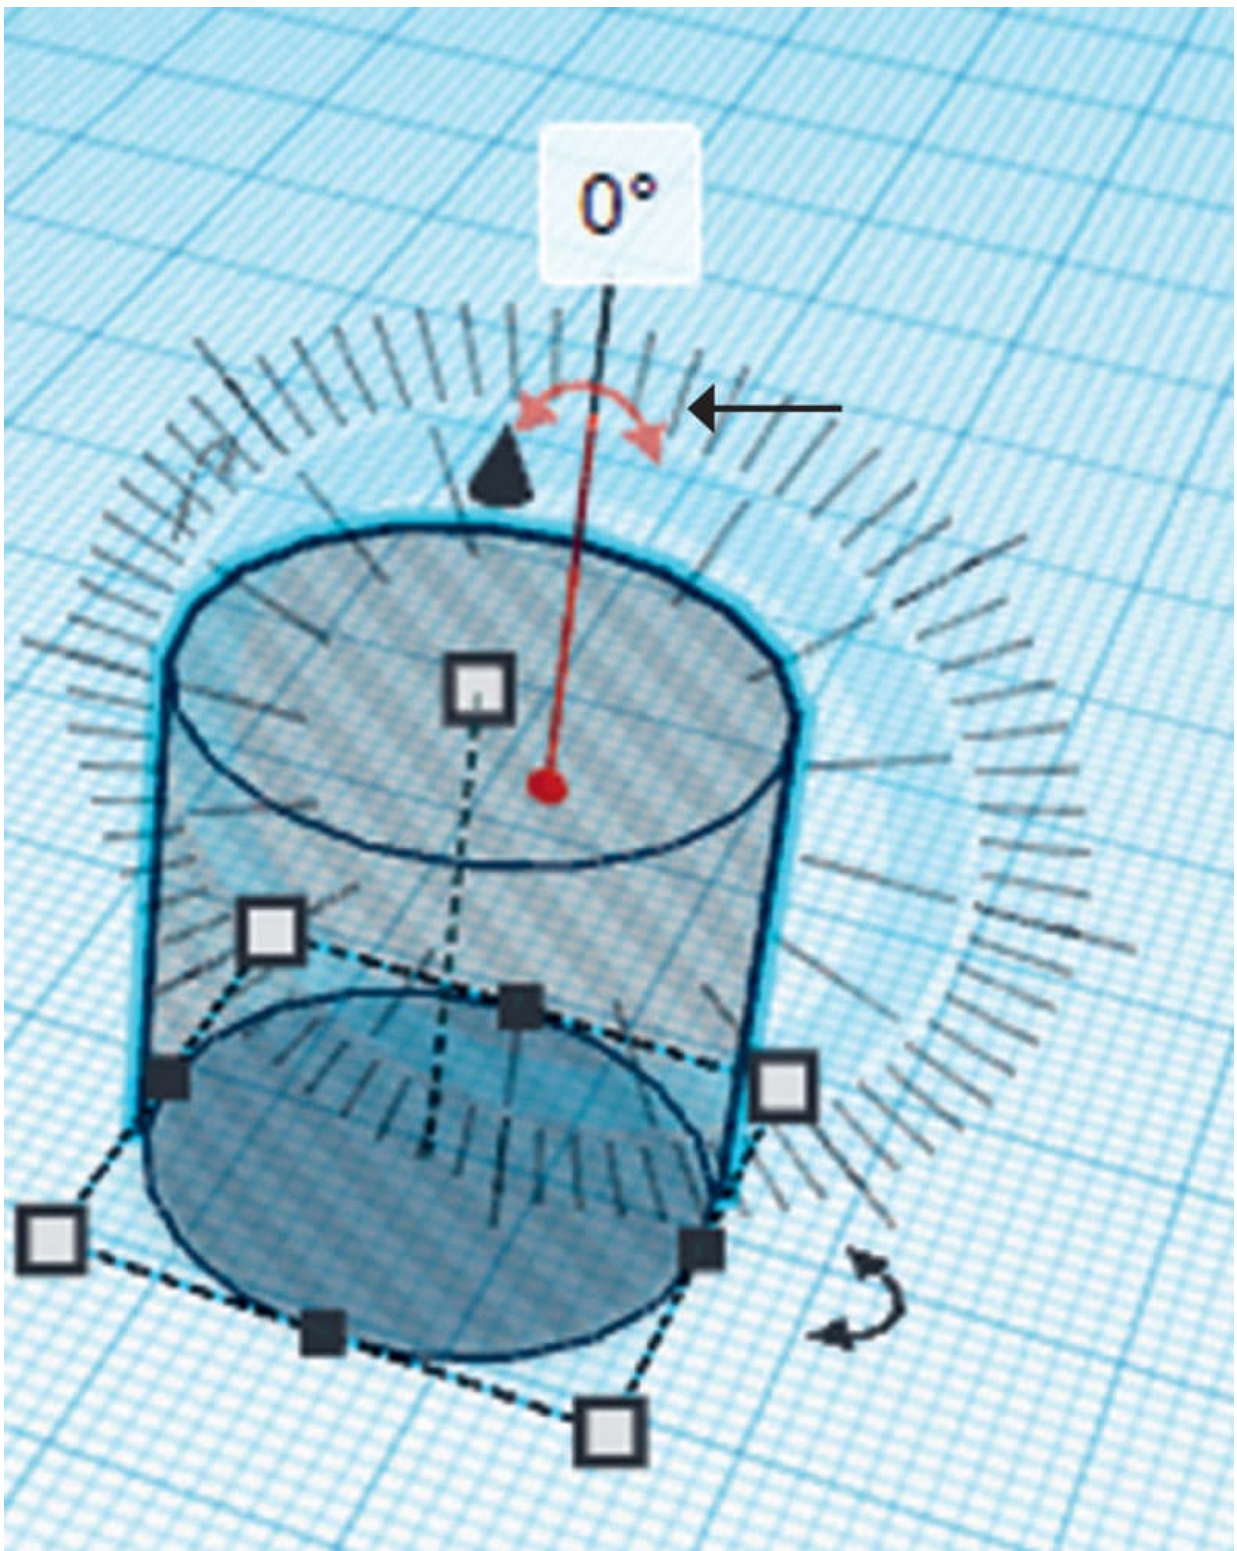

FIG. 2: Click on the curved shape-rotate tool of the cylinder hole to rotate the cylinder.
3. Rotate the cylinder 90 degrees so it lies horizontal. Click on the curved **Rotate** tool (fig. 2).